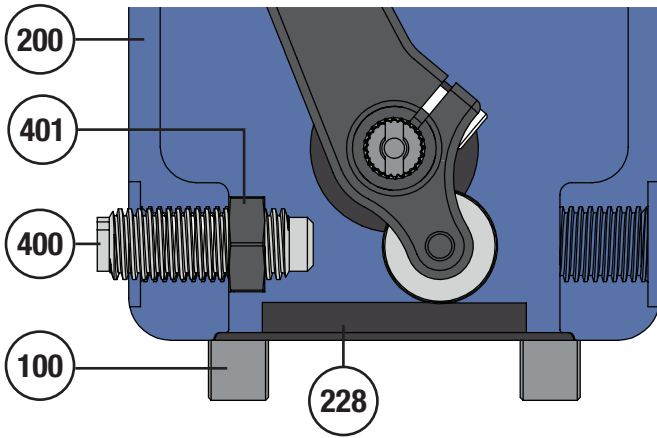

Figure 61 Alternate Travel Stop Assembly
- 2** Thread the locknut (Key 401) on to the travel stop (Key 400) and install the travel stop assembly into the yoke (Key 200). Refer to Figure 20 on Page 14. **NOTE:** Some sizes of actuator have a locknut that must be installed on the inside of the yoke. To install these travel stops, it will be necessary to remove the bottom cover (Key 227, Figure 10, Page 11) and thread the travel stop through the yoke into the locknut on the other side. Refer to Figure 61 on Page 32.